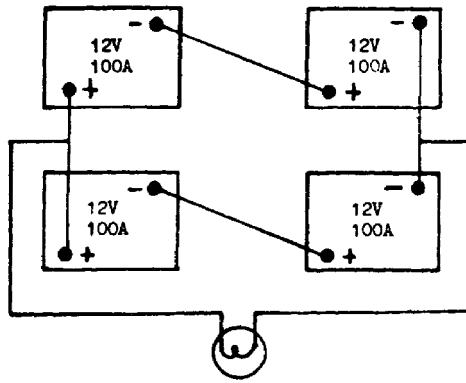

Figure 24. 12-volt, 200-ampere-hour supply.
e. In order to increase the ampere-hour rating, the batteries are connected in parallel. In a parallel circuit the current has more than one path to follow. Batteries connected in parallel must have the same voltage rating. To connect two batteries in this manner, the positive terminal posts of both batteries are connected together and then the negative terminals of the batteries are connected. Each battery will now furnish half the current flowing in the load so their ampere-hour ratings will be added together, but the voltage will be the same as one battery alone (fig 24).